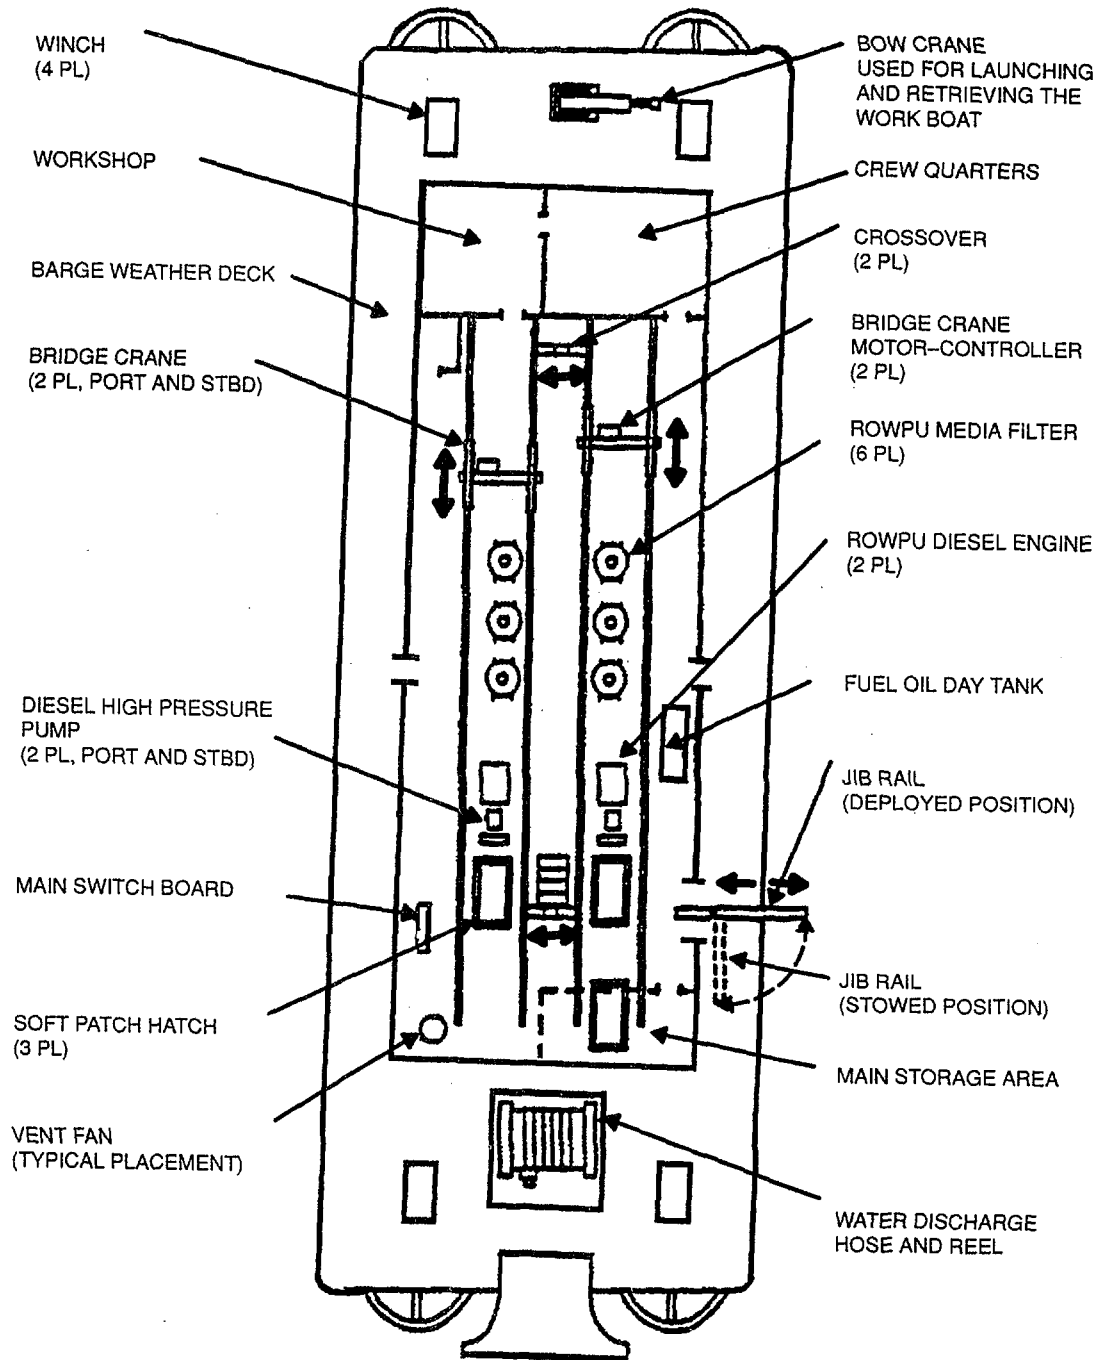
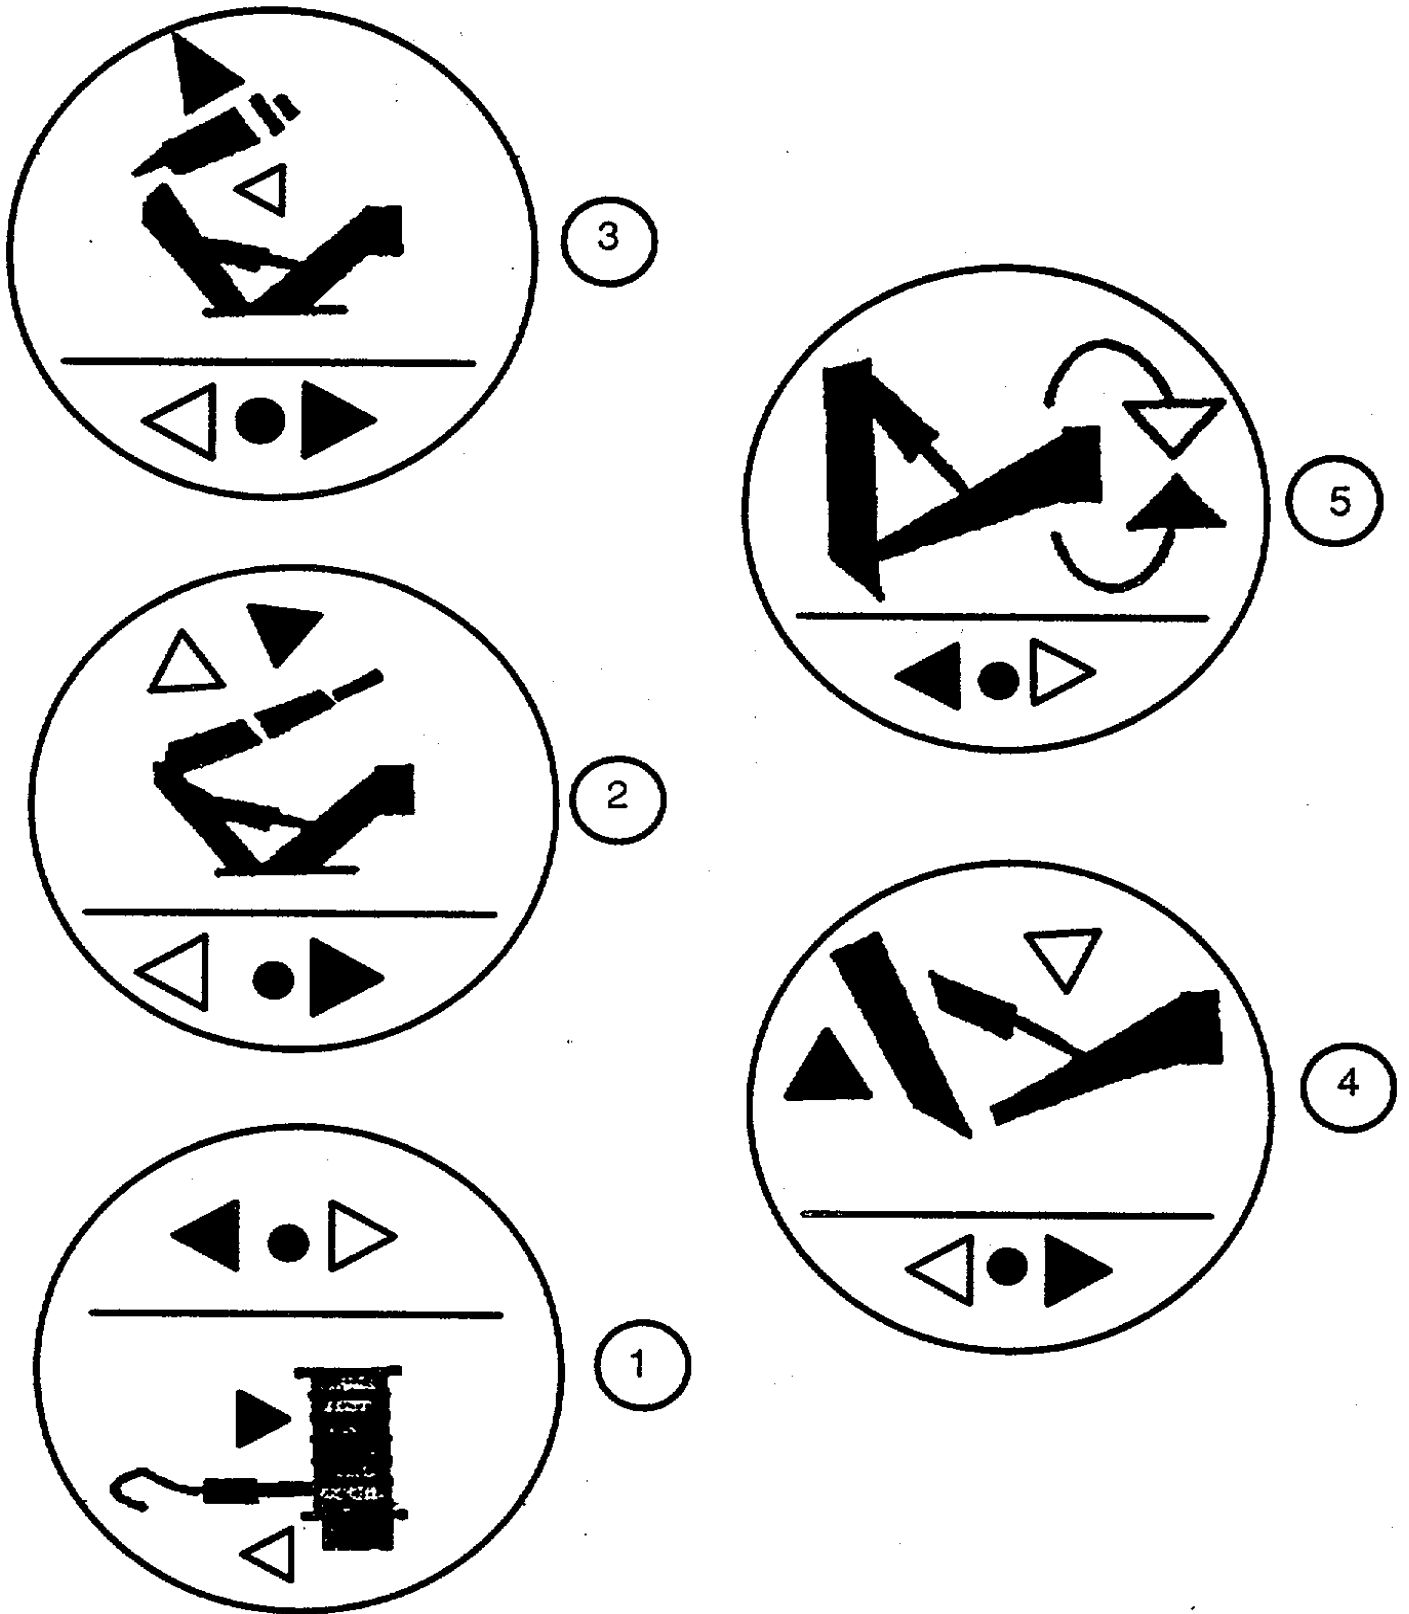

Figure 3-2. Bow Crane Operating Controls (Barge 1)
Figure 3-3. Bow Crane Operating Controls (Barges 2 and 3)
- (1) Install brake as given in Installation paragraph on page 1 of Dings 60 Series Heavy Duty Unipac Brake Instructions manual in Appendix B.
- (2) Open (OFF) and red tag circuit breaker 6P5 and connect voltage input wires if disconnected in step 2.1.
- (3) Close (ON) circuit breaker 6P5 and check brake for normal operation by operating crane. Adjust torque, if necessary.
**2-16.6 Lifting slings and rigs.** Lifting slings and rigs (Figure 3-2) used onboard the ROWPU Barge are listed below.
Operator controls for the crane (Figure 3-2 for Barge 1 and Figure 3-3 for Barges 2 and 3) are on the forward side of the deckhouse top. They include five control levers for controlling crane movement, a START/STOP control switch, and a key lock for the anti-2-block control system. The START/STOP control switch and anti-2-block key lock are in a watertight storage box aft of the crane control levers. Another START/STOP control switch, primarily for emergency use, is on the weather deck forward bulkhead.
After the workboat lifting harness is securely in place on the crane hook, the boat is picked up and lowered into the water by controlling the crane with its control panel levers (Figure 3-2 for Barge 1 and Figure 3-3 for Barges 2 and 3). Unload and retrieve workboat on the barge starboard side to preclude swinging the loaded boom over the crane operator position.
**3-10.1** Primary crane operating controls are five control levers for controlling crane movement (Figure 3-2 for Barge 1 and Figure 3-3 for Barges 2 and 3). This control valve system is factory sealed and is especially designed for use in a marine environment. It has a built-in pressure relief valve, which prevents damage to the crane from overloading; a suction valve, which ensures a continuous flow of hydraulic fluid; and a constant flow valve, which regulates and maintains the required system hydraulic pressure.
- j. Using crane control levers (Figure 3-2 for Barge 1 and Figure 3-3 for Barges 2 and 3), deploy crane from traveling position and exercise crane, without load, as follows: Extend all booms to their maximum length and slew crane around in one complete circle. During these movements, check for any change in pitch of hydraulic pump noise and any jerky, sticking or uneven movements of any part of the crane. Note such symptoms and check crane carefully before using.